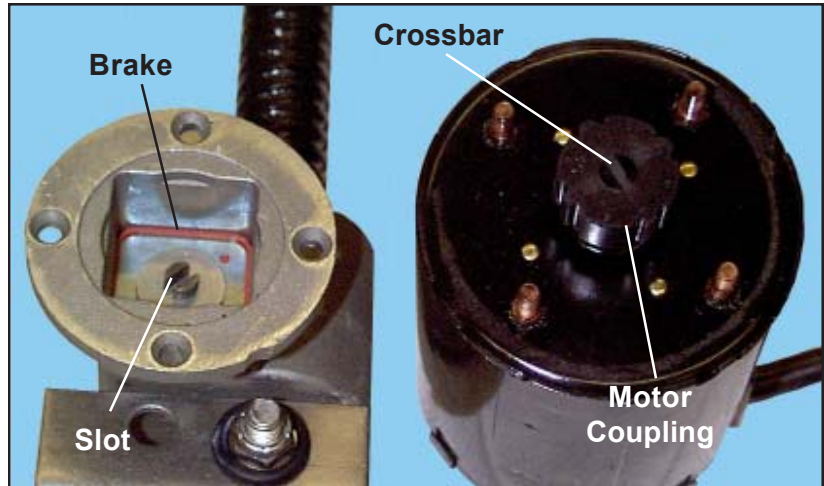

Figure 47. Motor to Gearbox Alignment
1. Align the crossbar on the motor coupling with the slot in the gearbox brake (Figure 47) and mount the new motor to the gearbox.